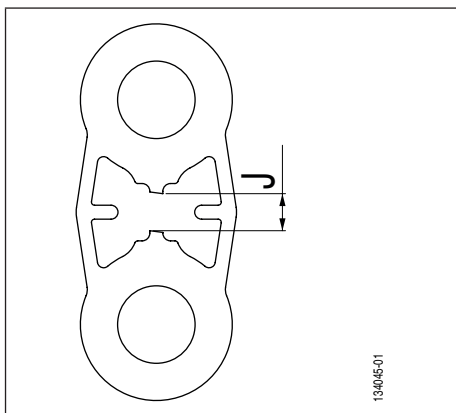
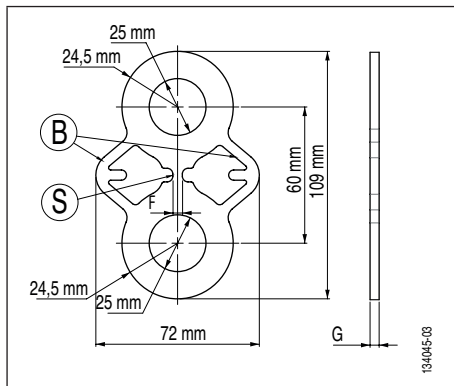

Fig. 1
Fig. 3
The different TA test plates are made of stainless steel of the same grade to ensure shearing of the section (*Fig. 3, page 4, item S*) to a level of precision of $\pm 10\%$ of the CR shear load indicated on the TA test plate (chapter 11. *Markings*). The brace arms (*Fig. 3, page 4, item B*) are designed to ensure a mechanical strength of at least the CR shear load indicated on the test plate.
- At the shear load CR indicated on the TA test plate (chapter 11. *Markings*) shear of S section (*Fig. 3, page 4, item S*).
- Elongation of plate and appearance of clearance 'J' between upper and lower half-parts of TA test plate (*Fig. 1, page 4, clearance J*).
The test load is reached when the central section of the plate (*Fig. 3, page 4, item S*) shears. A pair of brace arms (*Fig. 3, page 4, item B*) secure the loading line after shearing of the 'S' section.
! DANGER: If the operator applies a new load to the test plate after shearing of the 'S' section, the brace arm can break (Fig. 3, page 4, item B) resulting in falling down of the load application device. The maximum clearance 'J' (Fig. 1, page 4, clearance J) must not exceed 15 mm.